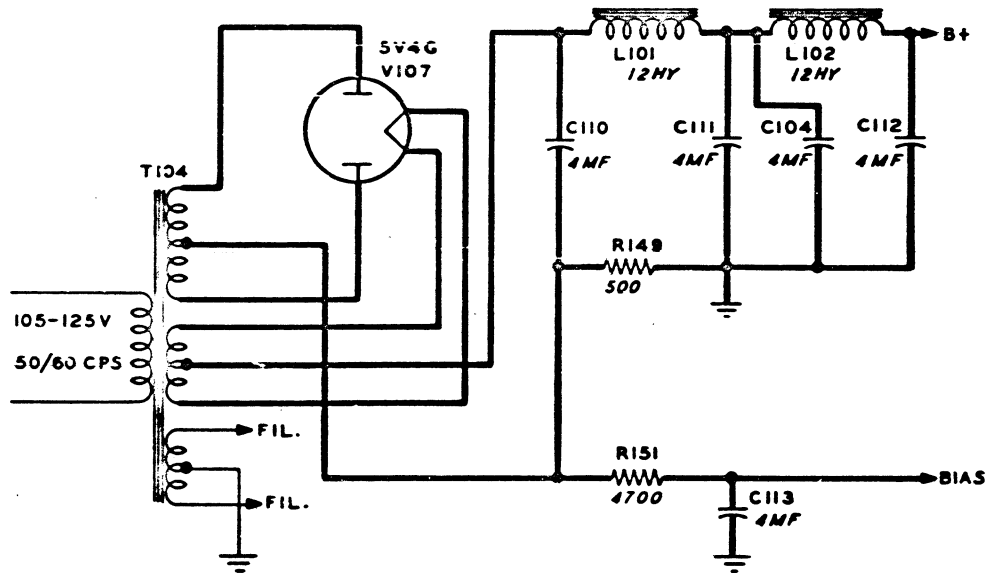

Figure 2-5. Power Supply Circuits
f. POWER SUPPLY CIRCUITS. - The power supply is self contained. Refer to Figure 2-5. A 5V4G tube, V107, is employed as a full wave rectifier. The filter system consists of L101, L102, C110, C111, C112. A fixed bias voltage for the limiter circuit is obtained from the voltage drop across R149 and filtered by R151 and C113.